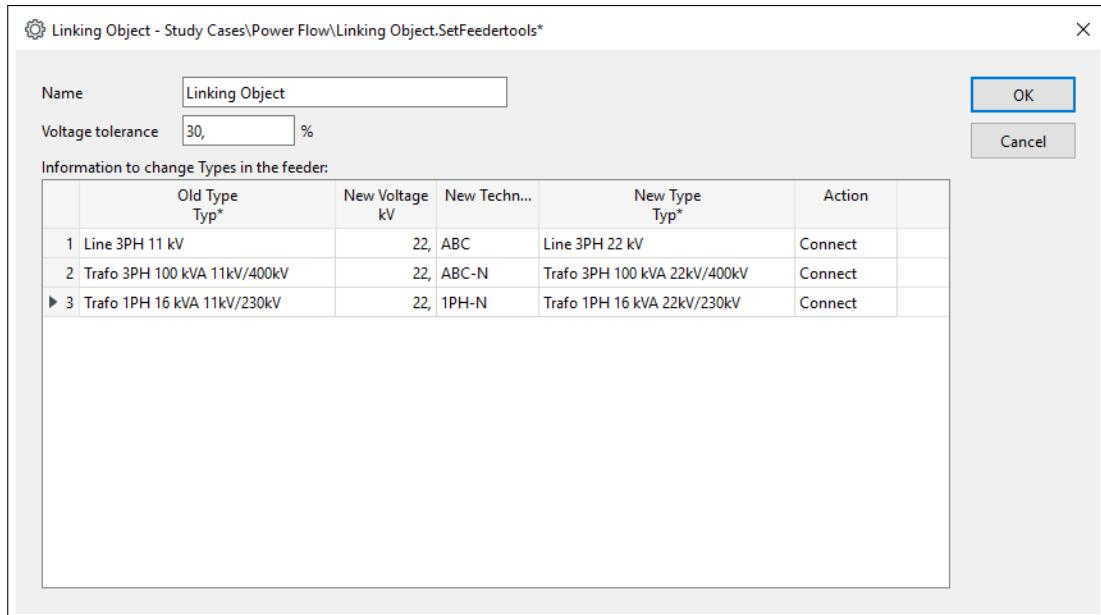

Figure 15.5.3: Linking Object
- Prompt for new type selection: the user should manually select which type should be used. If the selected type is still not valid (see item 7: Validation rules for types), the program will present new options: (i) the user can select a new type again, (ii) ignore replacing this type, or (iii) interrupt algorithm execution. Otherwise, if the selected type is valid (see item 7: Validation rules for types), the existing record in Linking Object is updated or in the event that it does not exist, a new one will be created.
An example of a *Linking Object* is shown in Figure 15.5.3. The voltage tolerance (parameter *vtol*) for comparison between type voltage and new voltage can be optionally specified. The default value is 30 %. Records in *Linking Object* should be unique for each combination of Old Type, New Voltage and New Technology. Validation rules (see item 7) are applied when the user presses the **OK** button or/and automatically (i.e. within the algorithm).